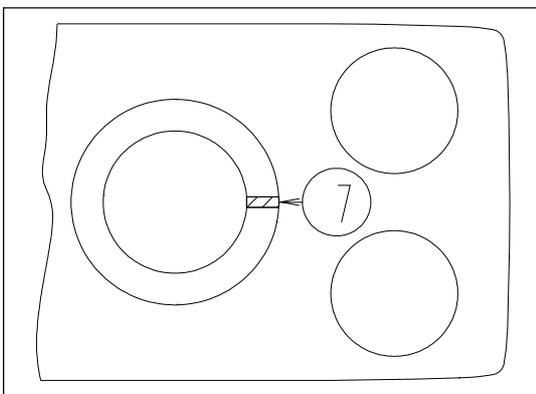

Figure 4. The friction brake of the arm swivel joint is accessible from below.
- 12) The swivel joint friction brake, located on the arm at the top of the stand (Fig. 4 (7)) is tightened according to the dentist's requirement.